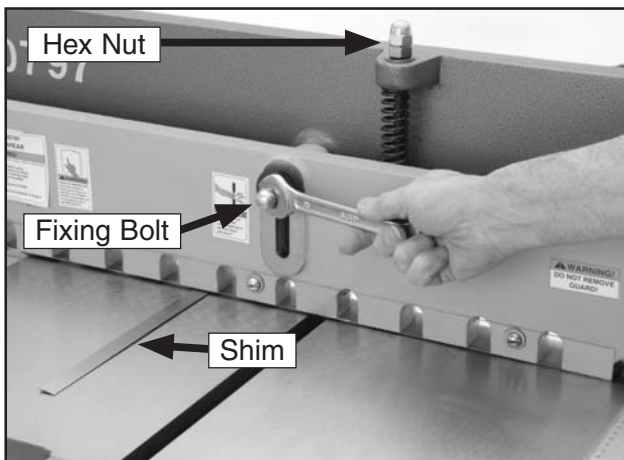

Figure 10. Tightening hold-down.
1. Tighten the hex nuts on the springs to raise the hold-down off the table (**Figure 10**).